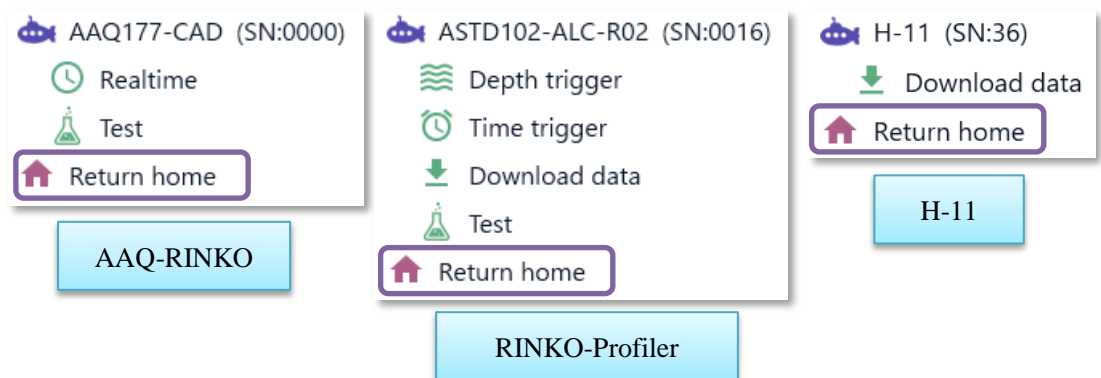

Figure 6.5 Examples of “Function Menu”
- (3) Displays inherent “function menu” depending on the model. (Figure 6.5)
- (4) Return to “instrument menu” by choosing [Return home] in “function menu”. (Figure 6.5)
- (1) Choose the instrument to use from instrument menu (refer to “6.2.2 Specifying the Instrument to Use”)
- (2) Choose the function to use from displayed “function menu”. (Figure 6.5 / Table 6.1)